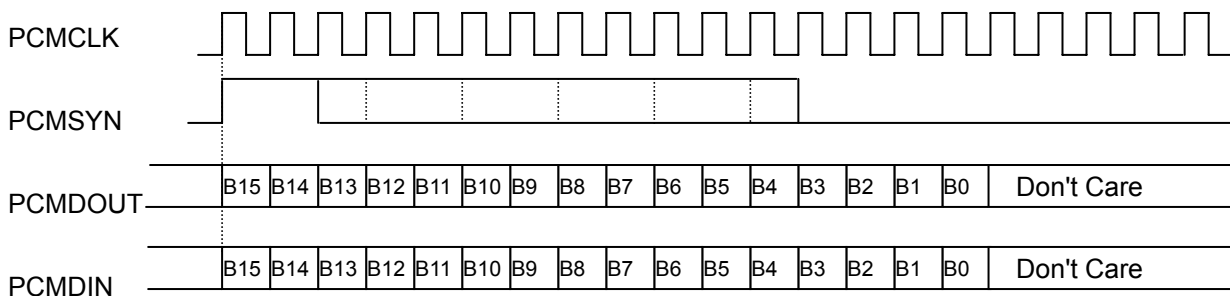

Figure 27-4 Long Frame SYN Timing (Shown with 16bit Sample)
- 1 Figure 27-4 shows a PCM transfer with the MSB configured to be coincident with the PCMSYN.